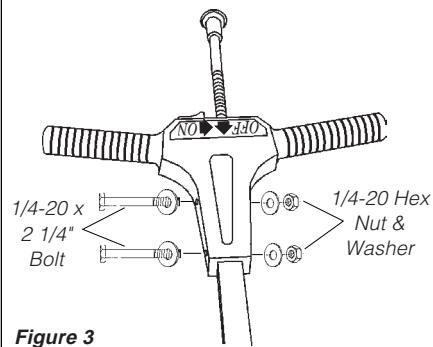
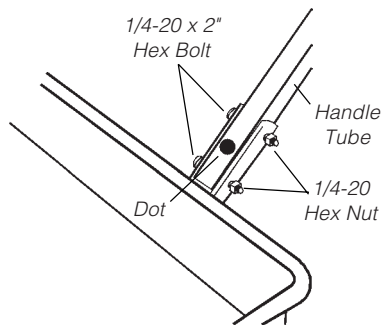

Figure 3
Figure 4
3. Feed control knob/wire through the T-handle until the caution label touches the round hole. See Figure 3.
Feed the T-handle/control wire assembly through the square handle tube towards the locator dot. See Figure 4. Secure the T-handle to the tube with (2) 1/4-20 x 2 1/4" bolts, (4) flat washers, and (2) hex nuts. See Figure 3.
4. Turn the spreader upright and install the handle tube with the dot between the handle braces as shown. Install (2) 1/4 x 1 1/2" hex bolts and nuts. See Figure 4.